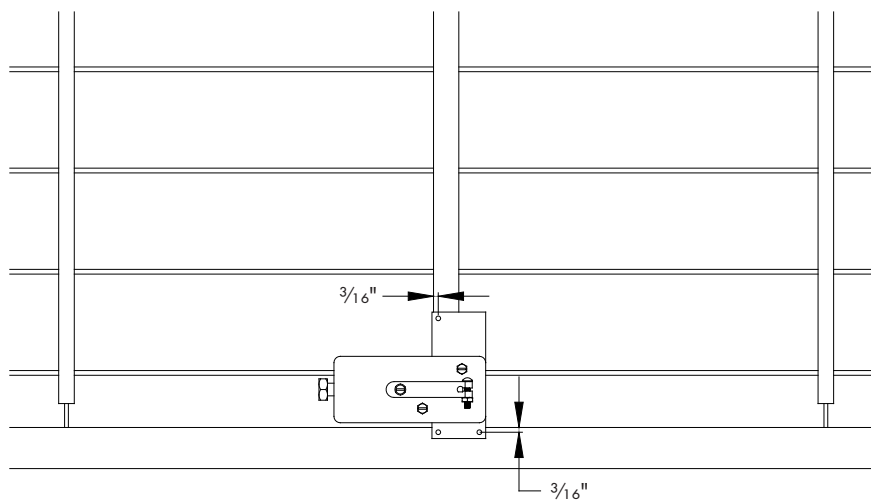

Figure 14
Position Mounting Plate on bottom shutter frame with holes 3/16" below edge and with the left hole 3/16" right of left edge of center support. Mark and drill three 1/8" diameter holes in frame. Fasten Mounting Plate with Motor to frame using (3) Tapping Screw [G]. See Figure 14.